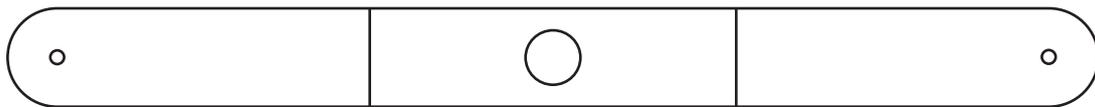

Fig. 13.3
- (c) Fig. 13.3 shows the development (net) ready to be bent to the shape of the bracket.